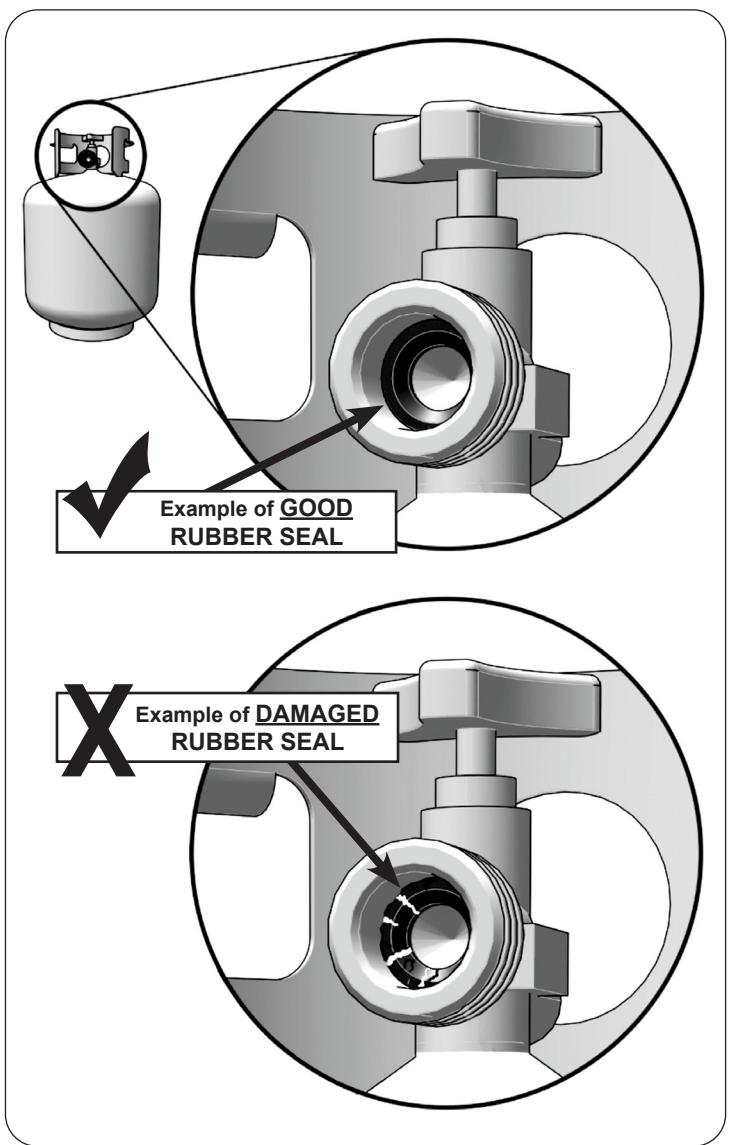

Fig. 6-1 Inspect rubber seal
- D. **CGA 791 connections on LP gas cylinders:** The cylinder face elastomeric face seal element on these devices could, over time, show marked and visible damage or deterioration that might cause a leak even with the connection tightened. A visual inspection for the seal must be carried out every time a LP gas cylinder is replaced or refilled. Any LP gas cylinder showing signs of damage or deterioration as illustrated in Fig. 6-1, including visible cracks and pitting, must be replaced.